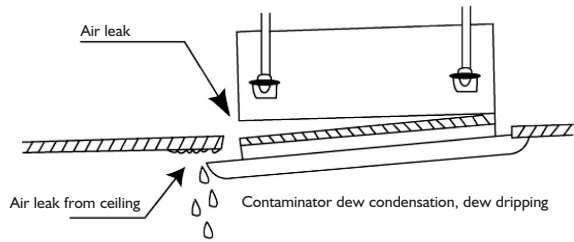

Fig 5
1. Improper screwing of the screws may cause the troubles shown in Fig.5